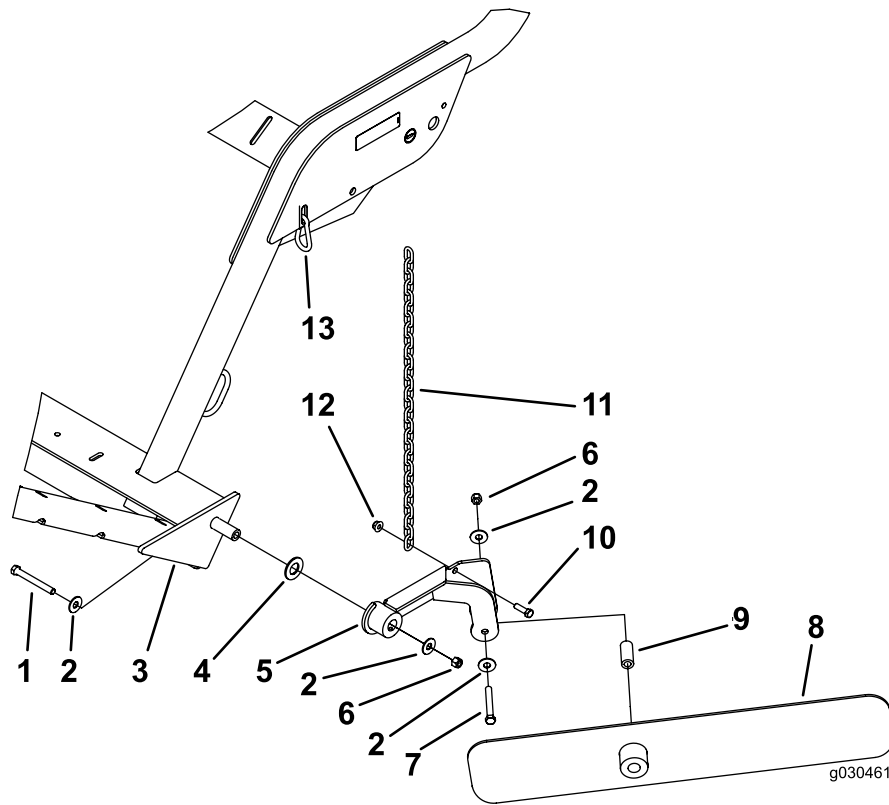

Figure 16
Note: Position components as shown in Figure 16.
2. Secure the windrow blade to the mounting assembly with a bolt (7/16 x 3-1/4 inches), 2 flat washers, a spacer, and a locknut (7/16 inch). Assemble the components as shown in Figure 16.
3. Secure the chain to the blade mounting assembly with a bolt (3/8 x 1-1/4 inches) and a flange nut (3/8 inch) (Figure 16).
4. Secure the other end of the chain to the slot in the frame with the snap link (Figure 16).